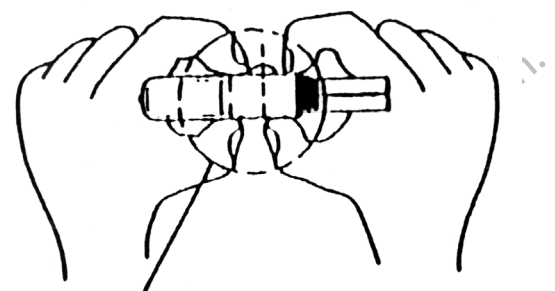

Figure 4-44. Fulcrum Method
1. Feel the control pump, locate the deactivation button, and place your index finger above it (at tubing side). **(Figure 4-44)**